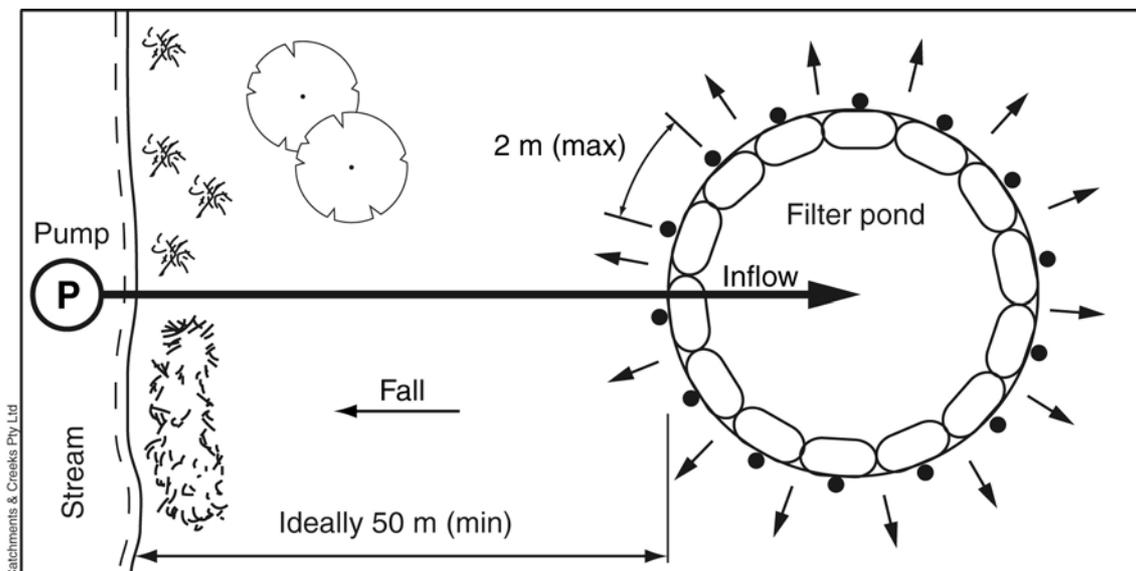

Figure 2 – Ideal placement of filter pond away from the edge of a watercourse
- at least 50m from a watercourse (Figure 2).